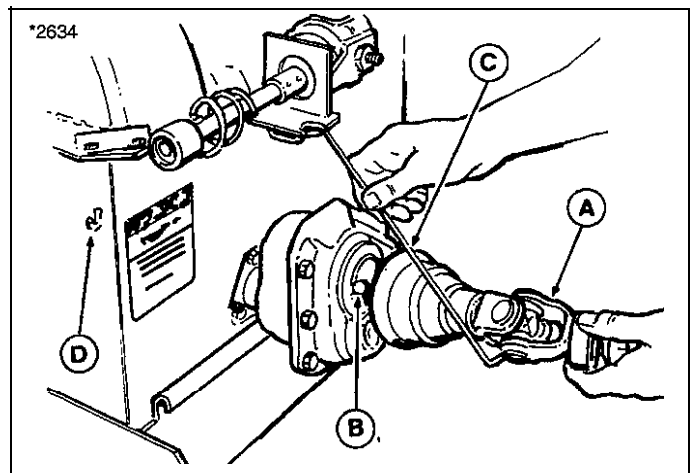

**Figure 5. Mounting Hitch**
5. Install the back of hitch so that hitch pins (A, figure 5) are cradled in tractor hitch bracket (B). The lift rod front clevis must be positioned over the hitch lift arm while raising hitch into position.
6. From inside hitch, install the left and right clevis pins (C) through attaching links and tractor hitch bracket (B). Secure with spring clips (D).
7. Align the holes in the lift rod front clevis and tractor lift arm (may have to lift up on front hitch slightly). To avoid interference, install the clevis pin (E) from inside (flat head towards PTO belts). Secure the clevis pin with spring clip on outside of lift arm clevis.